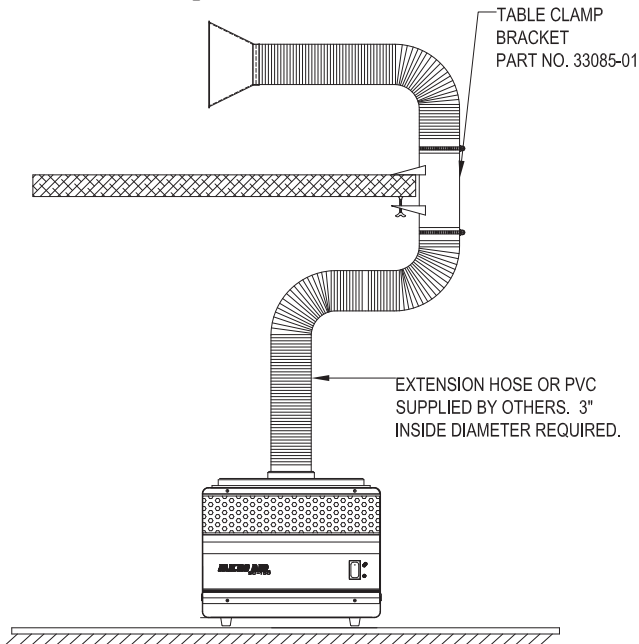

Fig. 3
A. Table Bracket Mounting (Fig. 3)